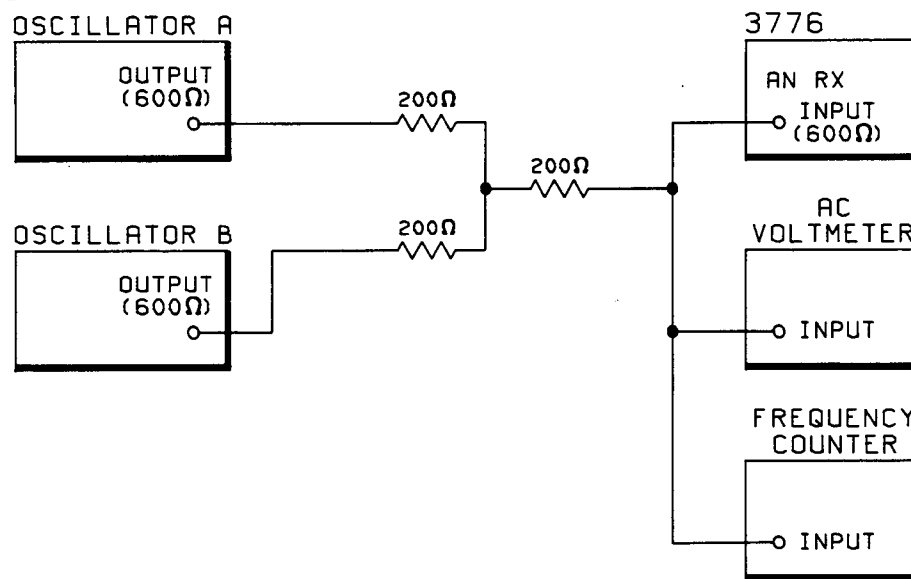

Figure 4-14 Phase Jitter Measurement Accuracy and Measurement Range Set-up
3. Connect the equipment as shown in Figure 4-14.